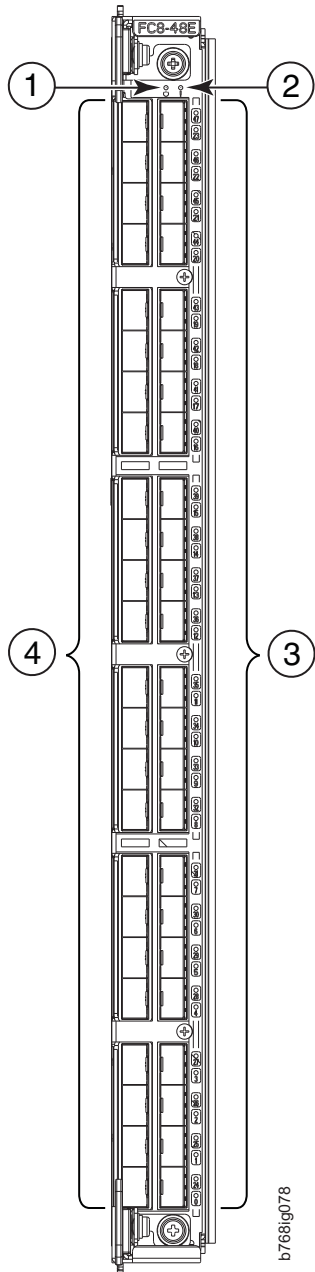

Figure 51. FC8-48E port blade
- Figure 51 on page 165 shows an FC8-48E port blade